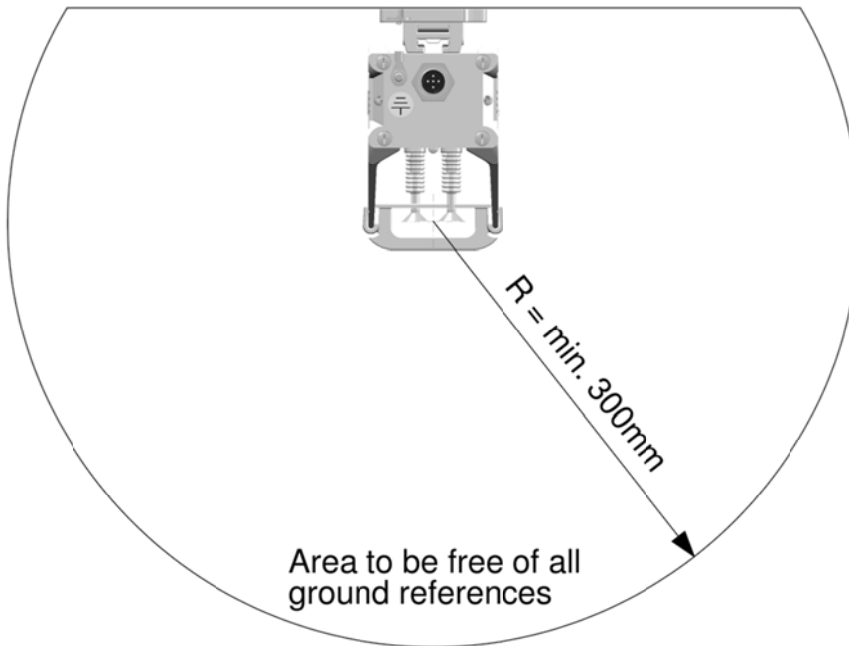

Figure 4
- **For minimum distances, see Figure 4.**